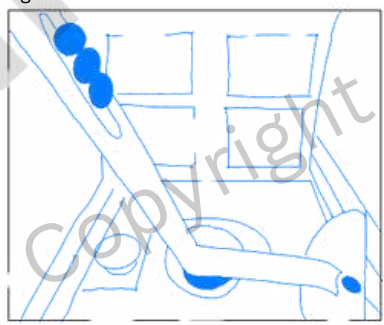

figure 6
5. Finally, you can remove the entire water guide (figure 6).